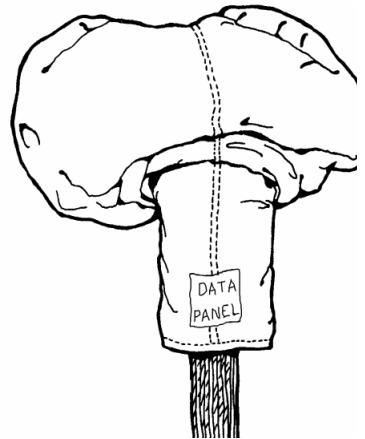

Figure 9
Step 10.) Maintain the grip on the canopy and gently swing the canopy outward and away. Place the canopy on the floor and apply tension to the lines. **NOTE:** If the canopy is placed on the floor with a twisting motion, it will not spread out evenly. Insure the nose is facing downward toward the floor. The center seam of the center cell (indicated by the data panel) should be in the center of the canopy bundle. (See Figure 9.)